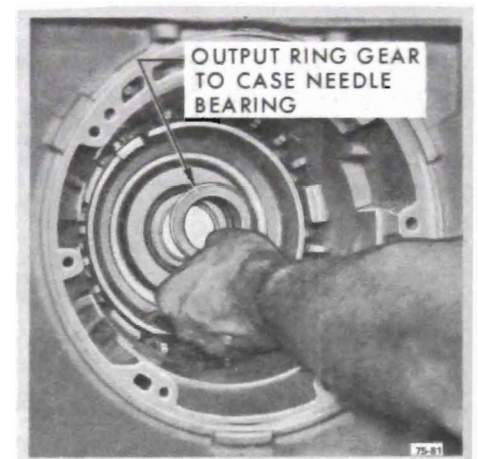

Figure 75-248
3. Install output ring gear to case needle bearing assembly. See Figure 75-248.